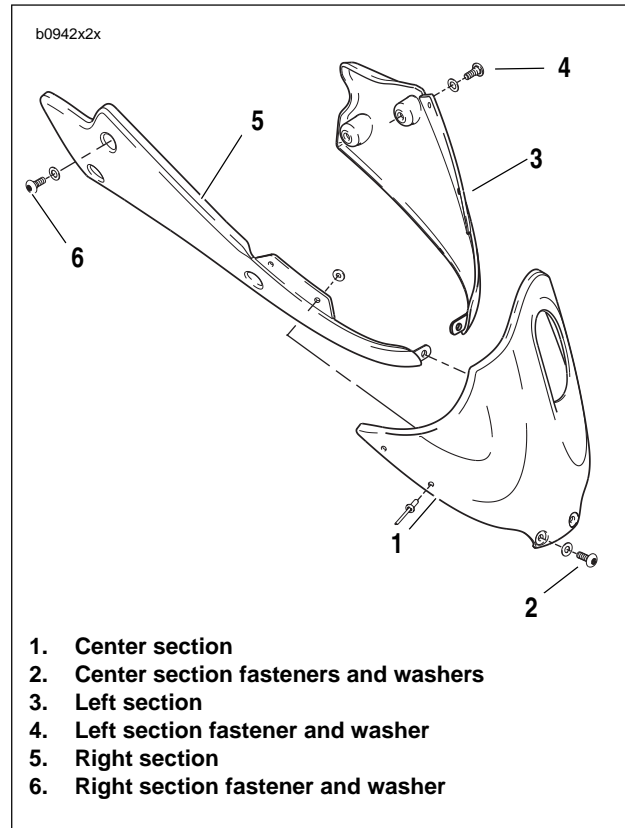

Figure 2-118. Chin Fairing Assembly
3. See Figure 2-118. Remove center section fasteners and washers (2).
4. Remove left section fasteners and washers (4).
5. Remove right section fasteners and washers (6).
1. See Figure 2-118. Position chin fairing (5) and install with right side fasteners and washers (6).
2. Align left section (3) and install with left side fasteners and washers (4).
4. Align center section (1) and install with center section fasteners and washers (2). Use LOCTITE 272 (red) on all fasteners tightening to 36-48 in-lbs (4-5 Nm).